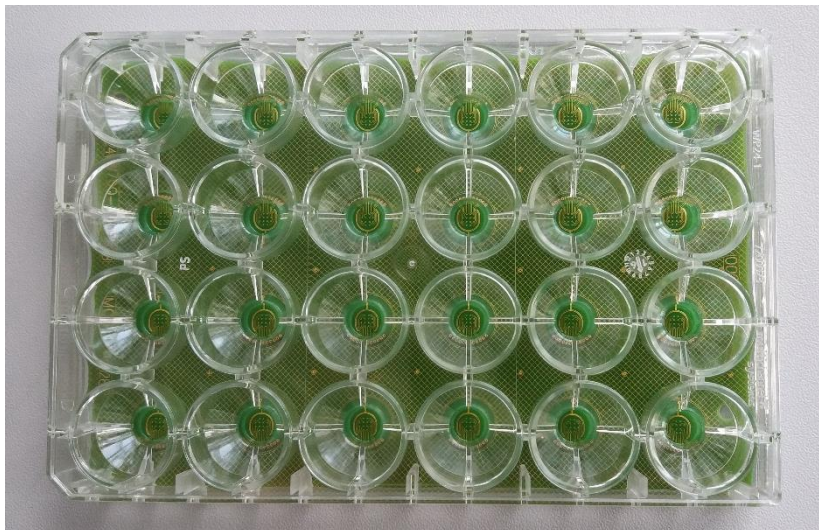

Fig. 1: 24-well Multiwell-MEA plate with gold electrodes.
- 1) Add 80 µl/well of the 0.1% PEI solution to the 24-well MEA plate (Fig. 1 & 2) to coat the entire bottom of the wells.